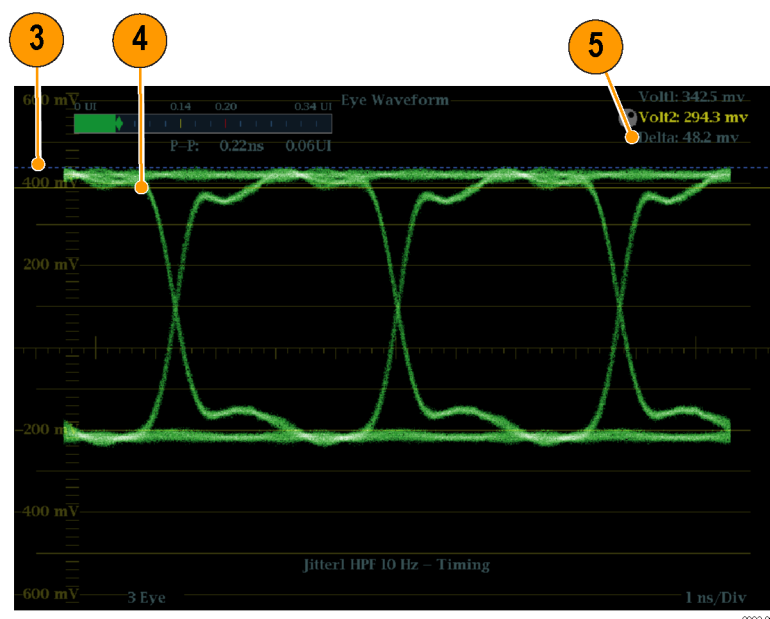

Figure 53: Using cursors to measure aberrations in the Eye pattern
3. Position one voltage cursor at the peak of the overshoot at the top horizontal part of the waveform. (See Figure 53.)
4. Position the second voltage cursor at the bottom of the top line of the waveform. Include any ringing (the oscillation following overshoot) in the measurement. Essentially, you are measuring the thickness of the top line of the waveform. (See Figure 53.)
5. Note the amplitude of the aberration displayed in the Voltage Cursor readout. (See Figure 53.)